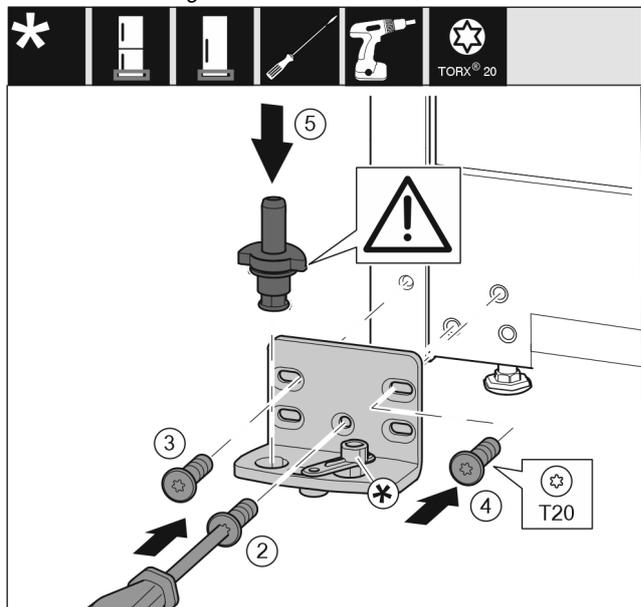

Fig. 48 *
- ▶ Place the swap bearing block on the other side and use a screwdriver to screw it on. Start with the screw Fig. 48 (2) at the bottom in the middle.*
- ▶ Tighten screw Fig. 48 (3) and screw Fig. 48 (4).*
- ▶ Insert the bearing bolt Fig. 48 (5) completely. Ensure that the latching cam is pointing towards the rear.*